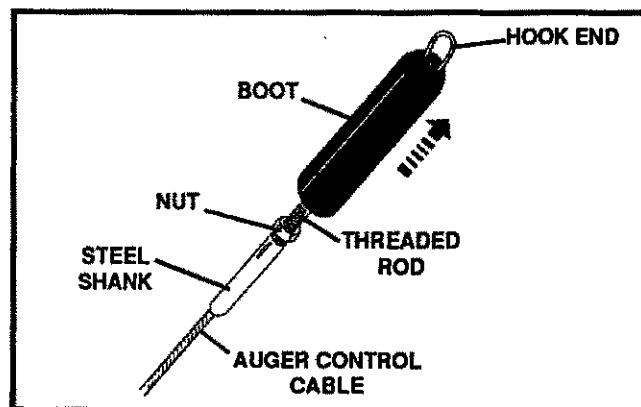

FIG. 2-SERV & ADJ
- Hold the threaded rod and twist the steel shank until slack is removed from the cable (See FIG. 2-SERV & ADJ).
- If auger continues to turn, stop the engine, loosen nut and twist steel shank 2 or 3 turns to loosen cable, and then tighten nut against steel shank using the same tools (See FIG. 2-SERV & ADJ).